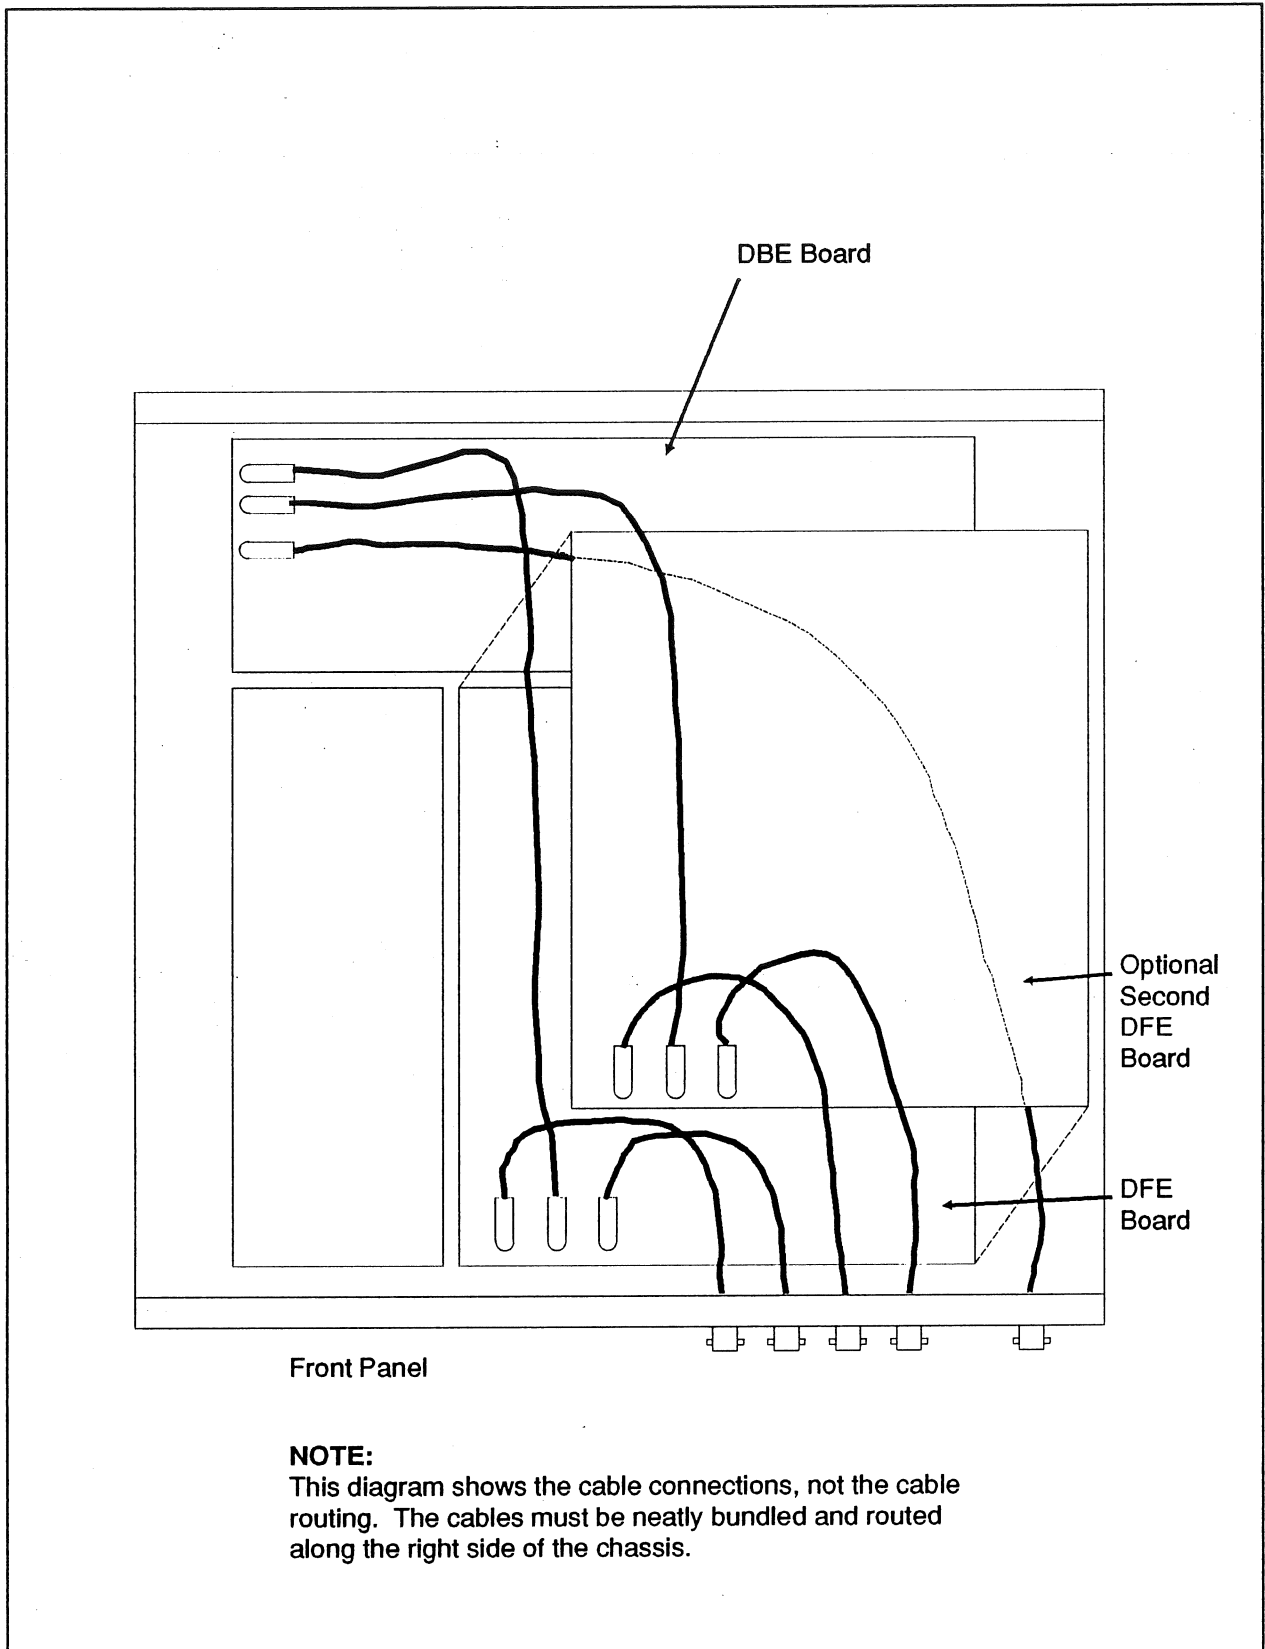

Figure 5-5. DBE Coax Cables
- 4** Install the coax cables as shown in Figure 5-5. If the 2630 does not have the two additional input channel option, you will need only two of the three coax cables.